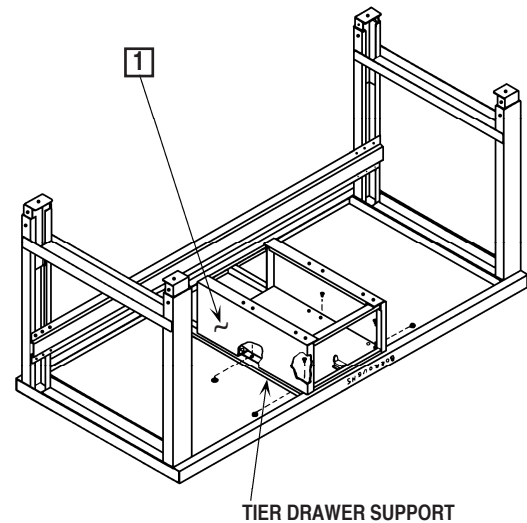
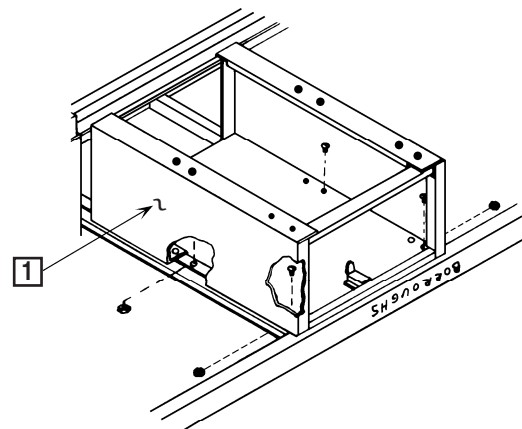

FIGURE 24
FIGURE 25
- Place the tier drawer case (Item 1) on the tier drawer supports with the open side of the case facing upward. Position the tier drawer case so that the four holes in the top of the drawer case are in line with the two forward holes on each tier drawer support. (NOTE: The tier drawer case top has eight holes. The drawer case may be positioned towards the front edge of the work bench or set back from the edge by aligning the front or rear holes, two each side, of the drawer case with the two forward holes on each tier drawer support). See Figure 24. Fasten the tier drawer case to the tier drawer supports with (4) screws and nuts (Items 2 & 3) as provided. See Figure 25.